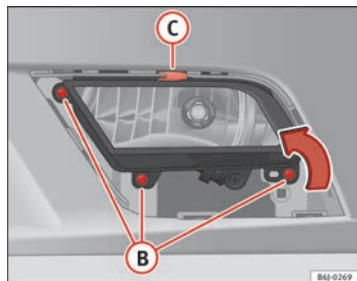

Fig. 158 Fog light
- Remove the bolts (3x) ⇒ Fig. 158 **B** to remove the fog light.
- Remove the metal clip situated on the upper part of the fog light pulling towards the exterior of the vehicle ⇒ Fig. 158 **C**. ■